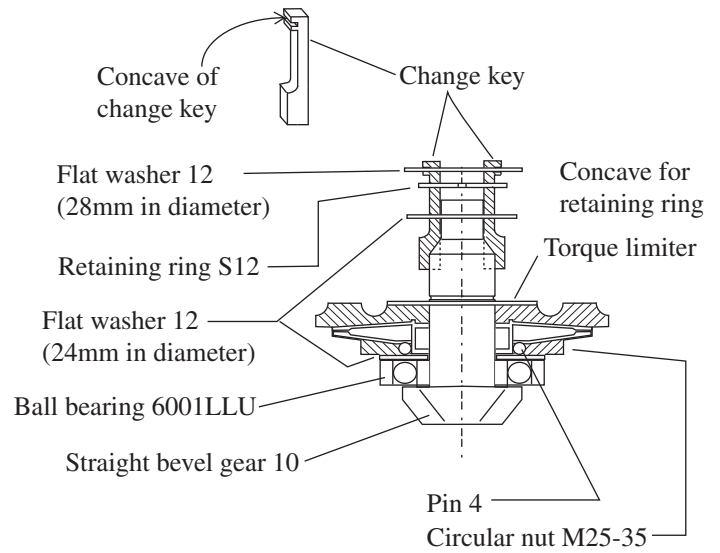

Fig. 26
1. Assemble ball bearing 6001LLU, flat washer 12 (24mm in outer diameter) and torque limiter to spiral bevel gear 10. (see Fig. 26)
And then assemble flat washer 12 (28mm in outer diameter) adjusting it in the concaves of change keys. (see Fig.26)
3. Assemble retaining ring S12 into the groove of the shaft of spiral bevel gear 10 by sliding down 2 change keys. And make sure, whether the retaining ring S12 is assembled in the groove firmly. (see Fig.26 and 26A)
4. Assemble slide plate, compression spring 3 and guide pin 2 to change link. (see Fig.26)